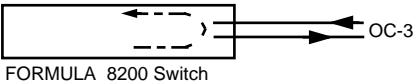
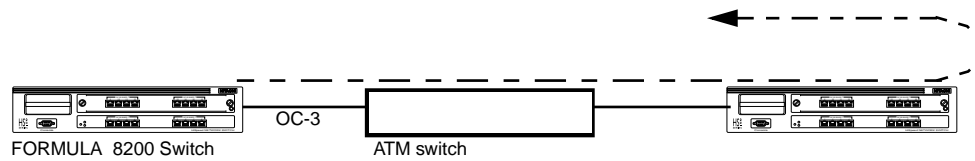
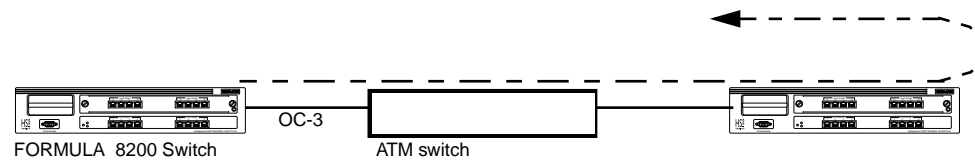
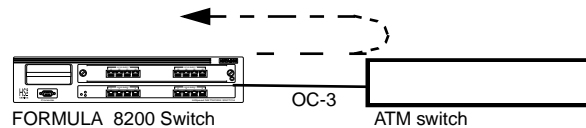

Figure 2-3 PHY Diagnostics Loop
Figure 2-4 PHY Line Loop
Figure 2-5 OAM F5 EndtoEnd Loop
Figure 2-6 OAM F5 Segment Loop
1. Loop Type	Specifies the elements that are tested Range: a) PHY Diagnostics Loop (See Figure 2-3) b) PHY Line Loop (See Figure 2-4) c) OAM F5 EndtoEnd Loop (See Figure 2-5) d) OAM F5 Segment Loop (See Figure 2-6) Default: a) OAM F5 EndtoEnd Loop
The PHY Diagnostics Loop test runs internally to the switch and tests physical and receive functionality, as illustrated in Figure 2-3.
The PHY Line Loop test runs from an external device transmitting to the switch, and loops signal back through the **physical layer**, as illustrated in Figure 2-4.
The OAM F5 EndtoEnd Loop tests line integrity through the **entire connection**, as illustrated in Figure 2-5.
The OAM F5 Segment Loop tests line integrity between the switch and the next device, as illustrated in Figure 2-6.